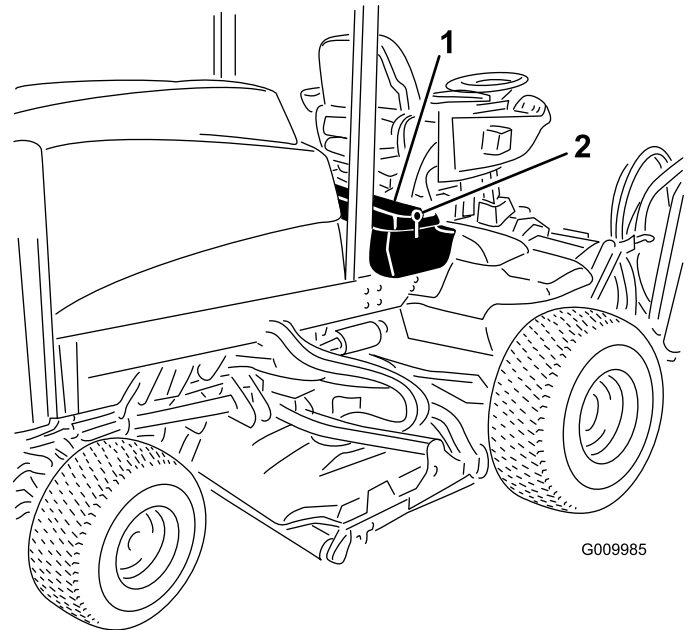
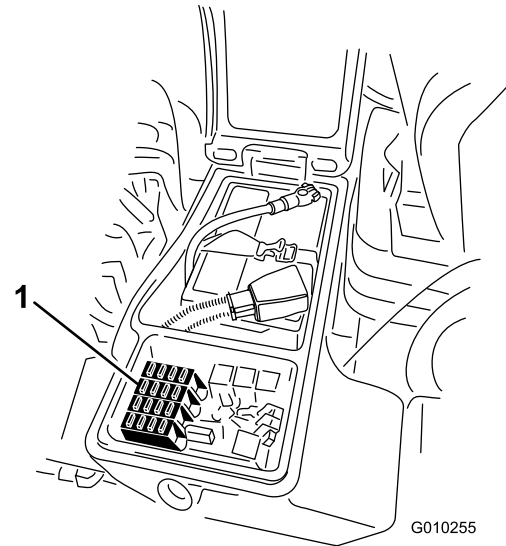

Figure 77
Figure 78
- Replace the open fuse(s) as needed (Figure 78).
- Close the cover of the right storage box and secure the cover with the latch (Figure 77).
- Loosen the latch for the cover of the right storage box and raise the cover (Figure 77) to expose the fuse block (Figure 78).